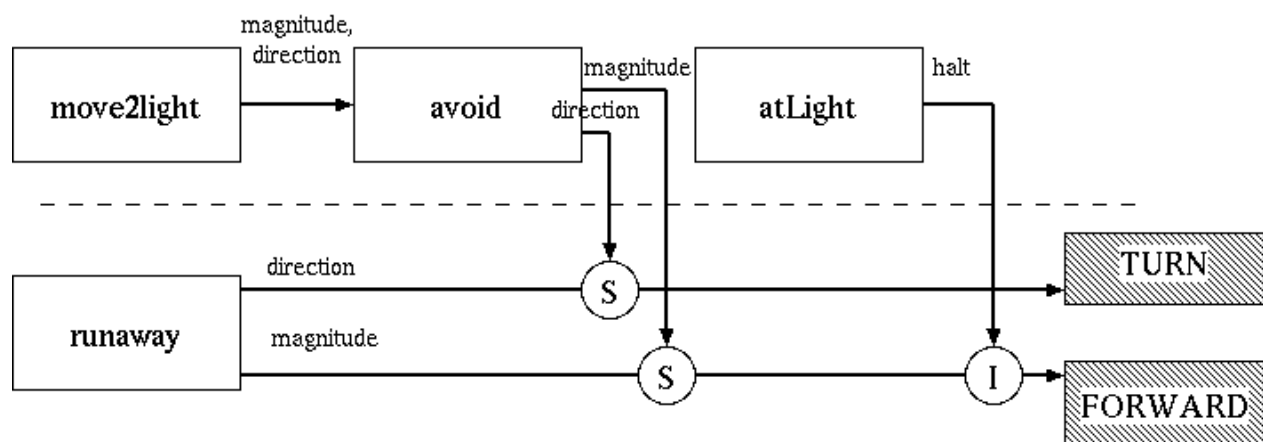

Figure 3: Sample Photophilic Architecture
2. Similar to the prior 2 labs, Layer 0 of the architecture should be obstacle avoidance. The robot should move with respect to the sensorimotor connections with respect to the light source while also avoiding obstacles. If the robot does not detect a light source or an obstacle then it should remain still (see Figure 3).